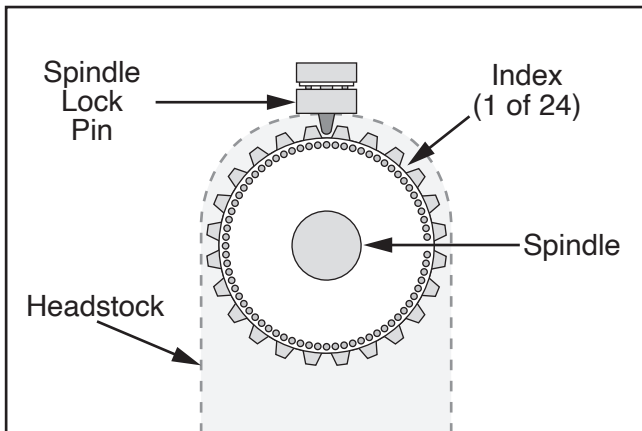
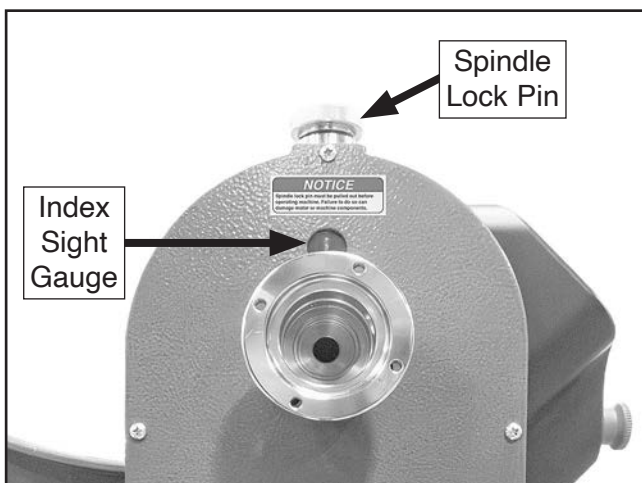

Figure 62. Indexing configuration.
Figure 63. Spindle indexing components.
By inserting the spindle lock pin into one of the 24 indices of the spindle, the workpiece can be positioned in 15° increments, as shown in **Figure 62**. A clear sight gauge is included on the Model G0995 for visual confirmation of the numbered index (see **Figure 63**).
4. Use index sight gauge to verify spindle lock pin is engaged in desired index, as shown in **Figure 63**.
3. Use index sight gauge to verify spindle lock pin is disengaged from index (see **Figure 63**).